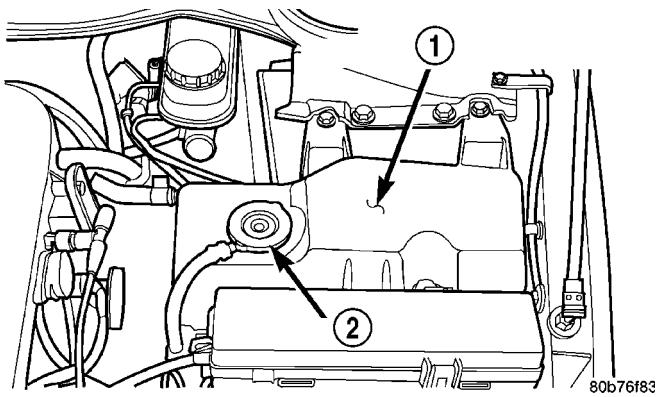

Fig. 7 COOLANT BOTTLE LOCATION
(1) Try squeezing the radiator upper hose to determine if the system is still pressurized.
(2) Place a shop towel over the pressure cap and turn to the first stop. Wait to see if any pressure is released. When no pressure is released, press down on the cap and turn to the second stop. Remove cap (Fig. 7).